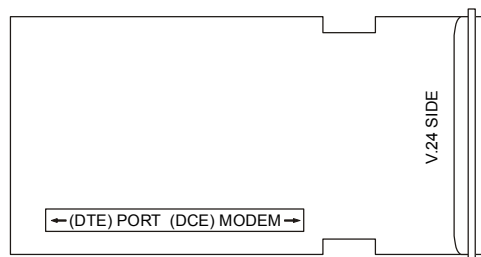

Figure 5. V.24 DCE/RS-530 DTE Configuration
4. Invert the socket so that the DCE faces the V.24 connector and the DTE faces the RS-530 device (see Figure 5). Make sure that the pins are aligned with the socket.